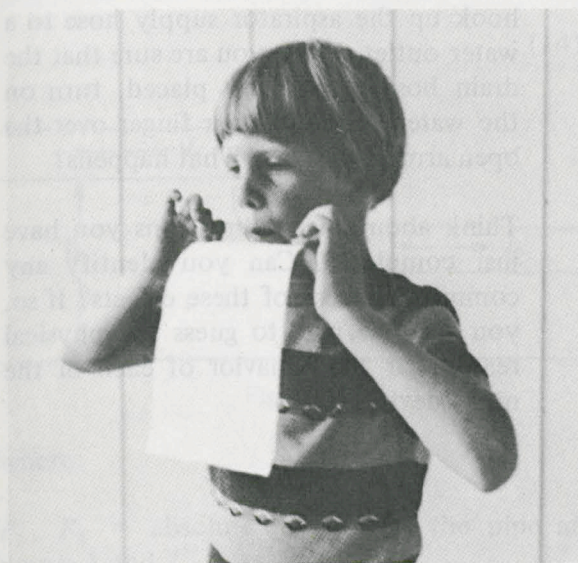

Figure 28.
1. Hold a piece of notebook paper in front of your mouth as in Figure 28. What happens to the paper when you blow across its upper surface?